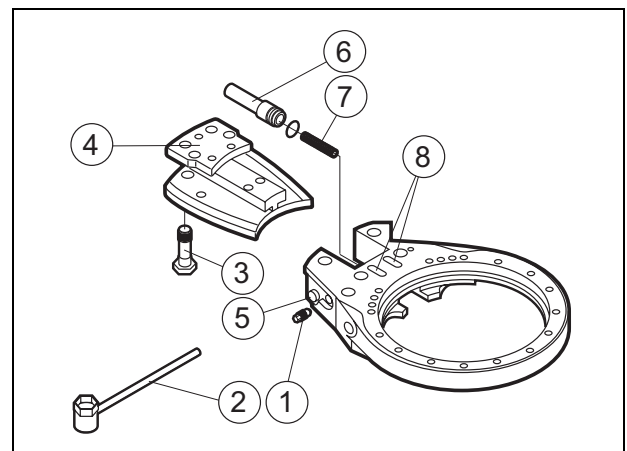

Fig. 39 Replacing saw chain
2. Depressurise the automatic chain tensioner by loosening the bleed screw (1) approx. 1 turn. Apply the tool (2) on the front guide screw (3) and push the holder (4) backwards. *See Fig. 39.*
3. Press in the mechanical locking device (5).
4. Tighten the bleed screw (1).